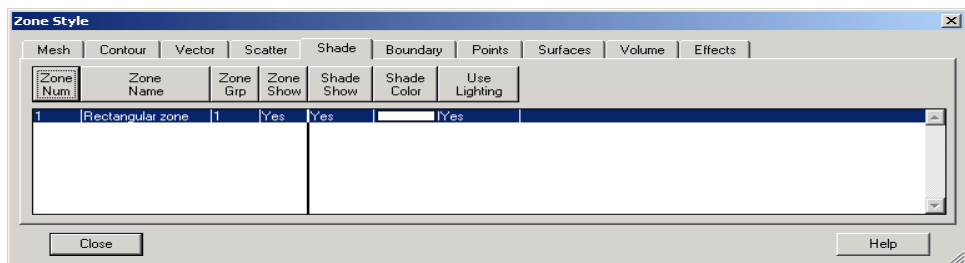

Figure 14-1. The Shade page of the Zone Style dialog.
2. Display the Shade page. The Shade page appears as shown in Figure 14-1.